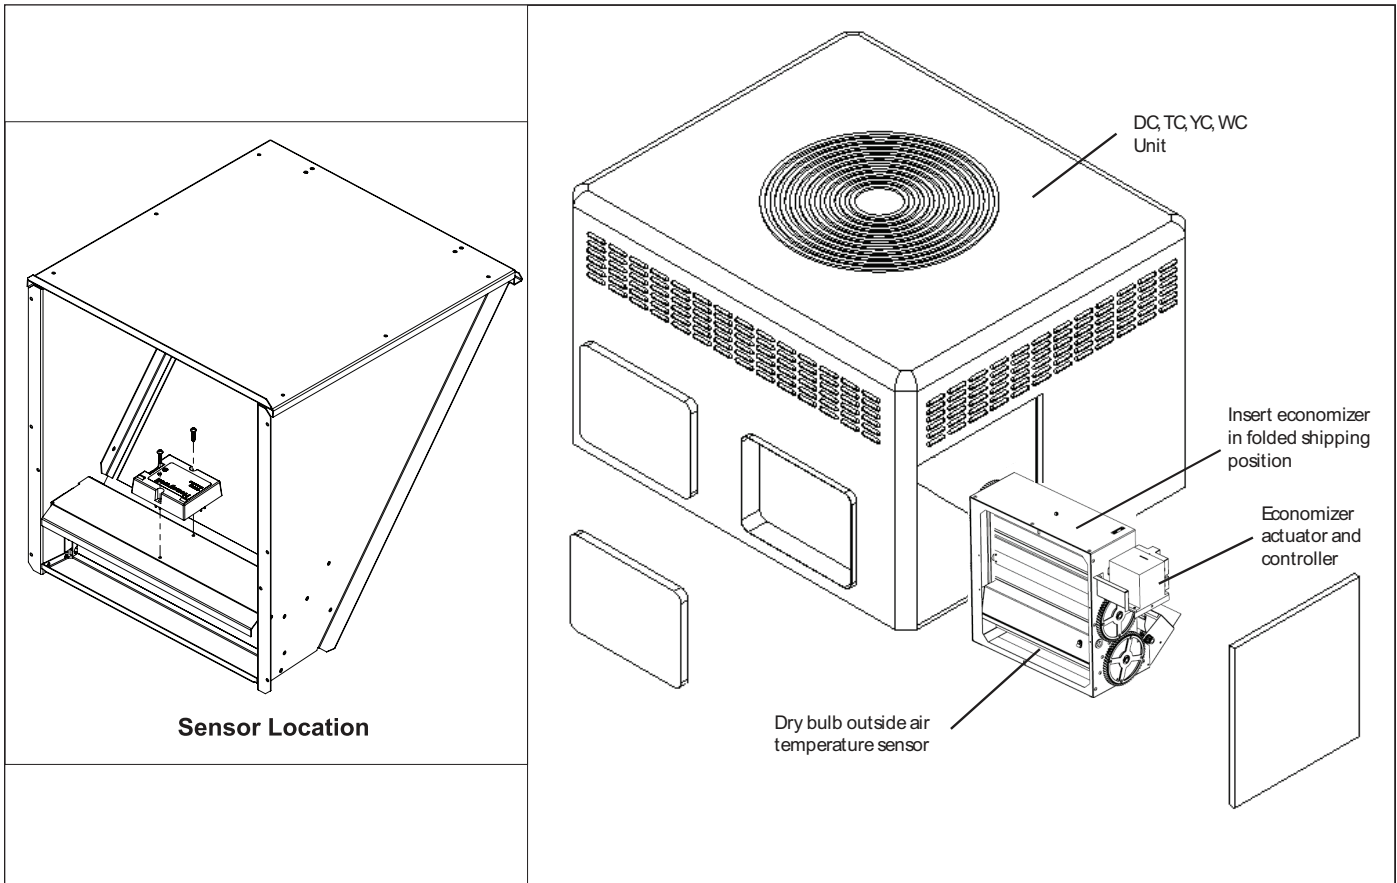

Figure 4. Insert Economizer in Shipping Position
1. The economizer ships with the return air damper folded up to allow the assembly to fit through the Coil opening in the side of the unit. Insert the economizer assembly into the unit through the Coil access panel opening. See Figure 4.